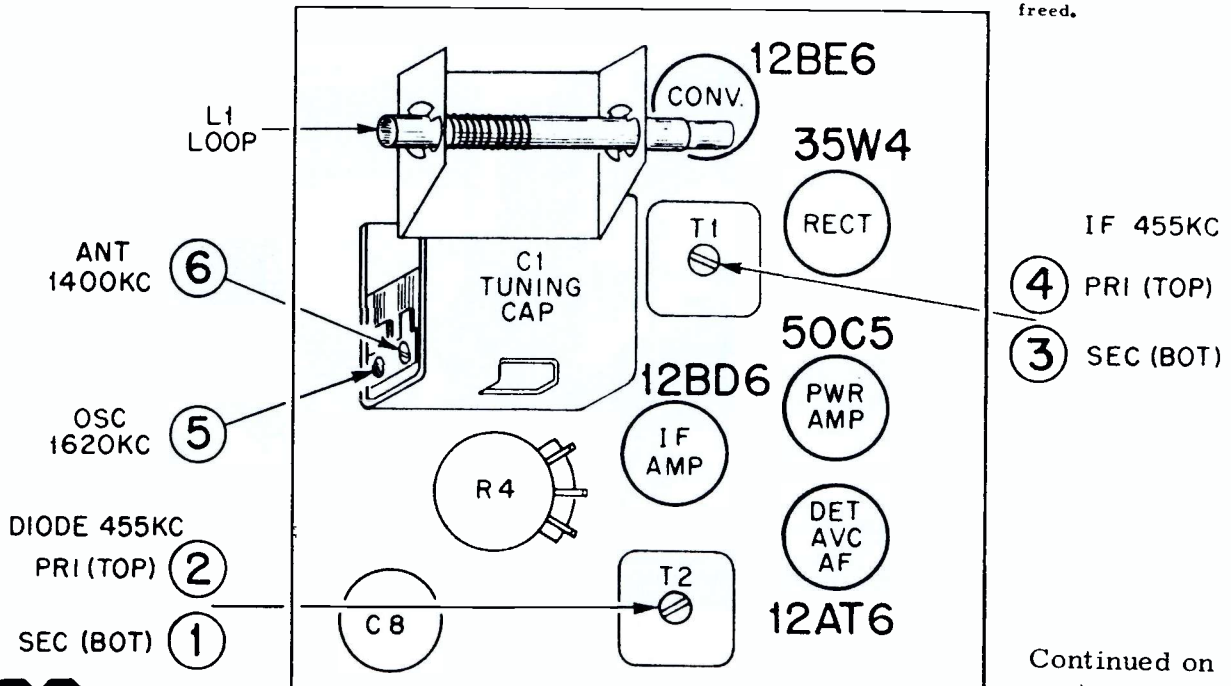

FIGURE 2. TUBE AND TRIMMER LOCATIONS (LATE MODEL)
7. See Figure 2 for adjustment locations and the following chart for procedure.